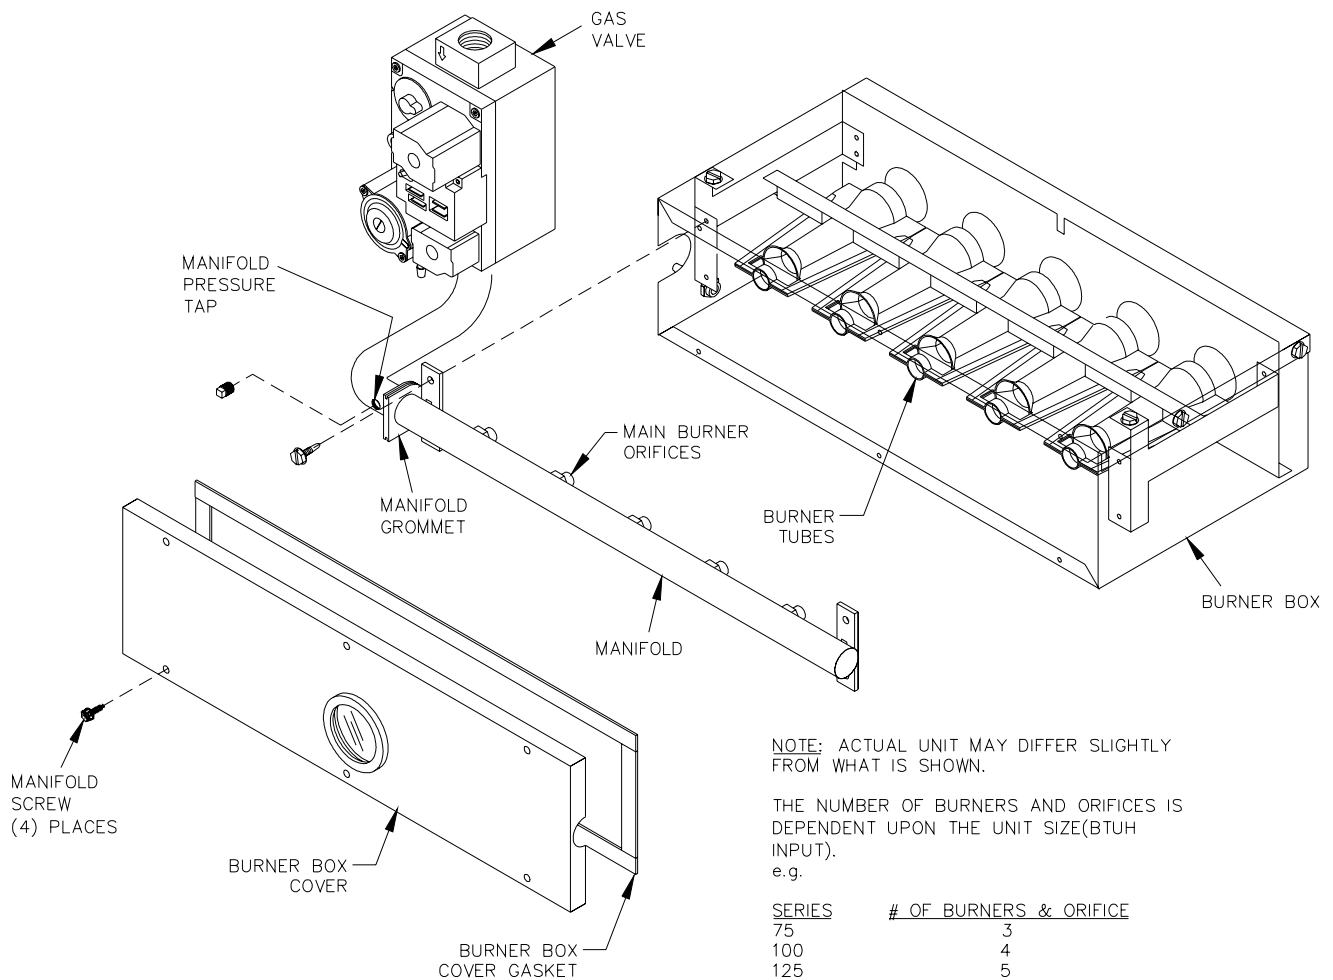

Figure 22: Exploded View of CDX/CHX Gas Control System
2. Remove the outlet pressure tap plug from gas burner manifold and connect a pressure gauge. Refer to Figure 22, below.